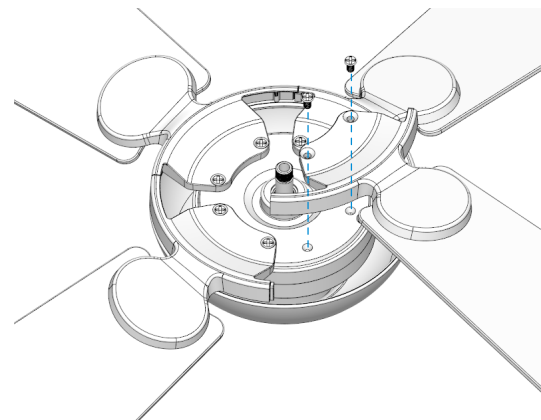

Fig. 2.1
2.1 Gently place the motor housing upside down. Secure the blade brackets, along with the assembled fan blades, to the motor housing using the blade bracket screws included in the hardware pack, as demonstrated in Fig. 2.1.